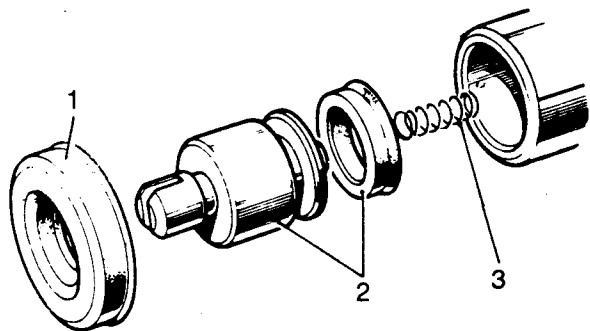

Fig K1.33
- (2) Refer to Fig K1.33. Withdraw the dust cover (1).
- (3) Withdraw the piston and seal (2).
- (4) Withdraw the spring (3).